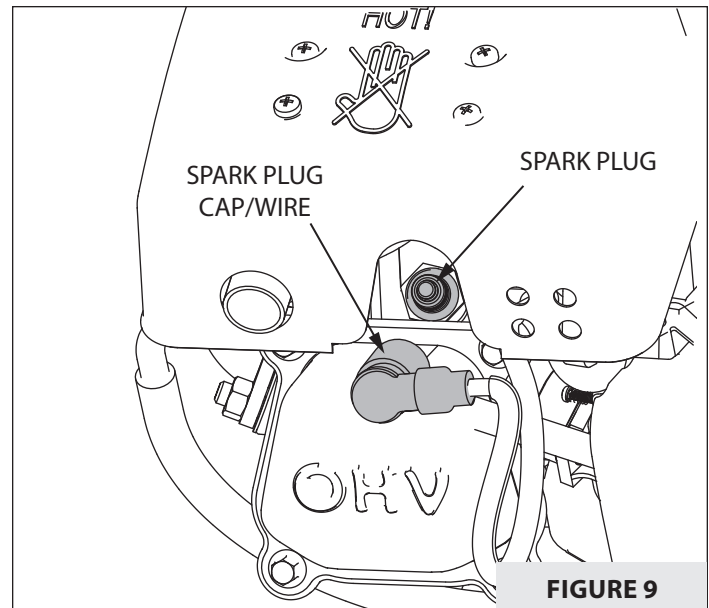

FIGURE 9
1. Detach spark plug wire and move away from spark plug. If the engine uses a battery, disconnect at negative terminal. **SEE FIGURE 9.**